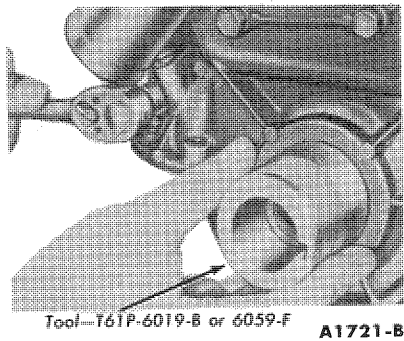

FIG. 54 Aligning Cylinder Front Cover
- screws to specifications (Figure 54). Tighten the cover to block attaching screws to specifications. Remove the pilot.